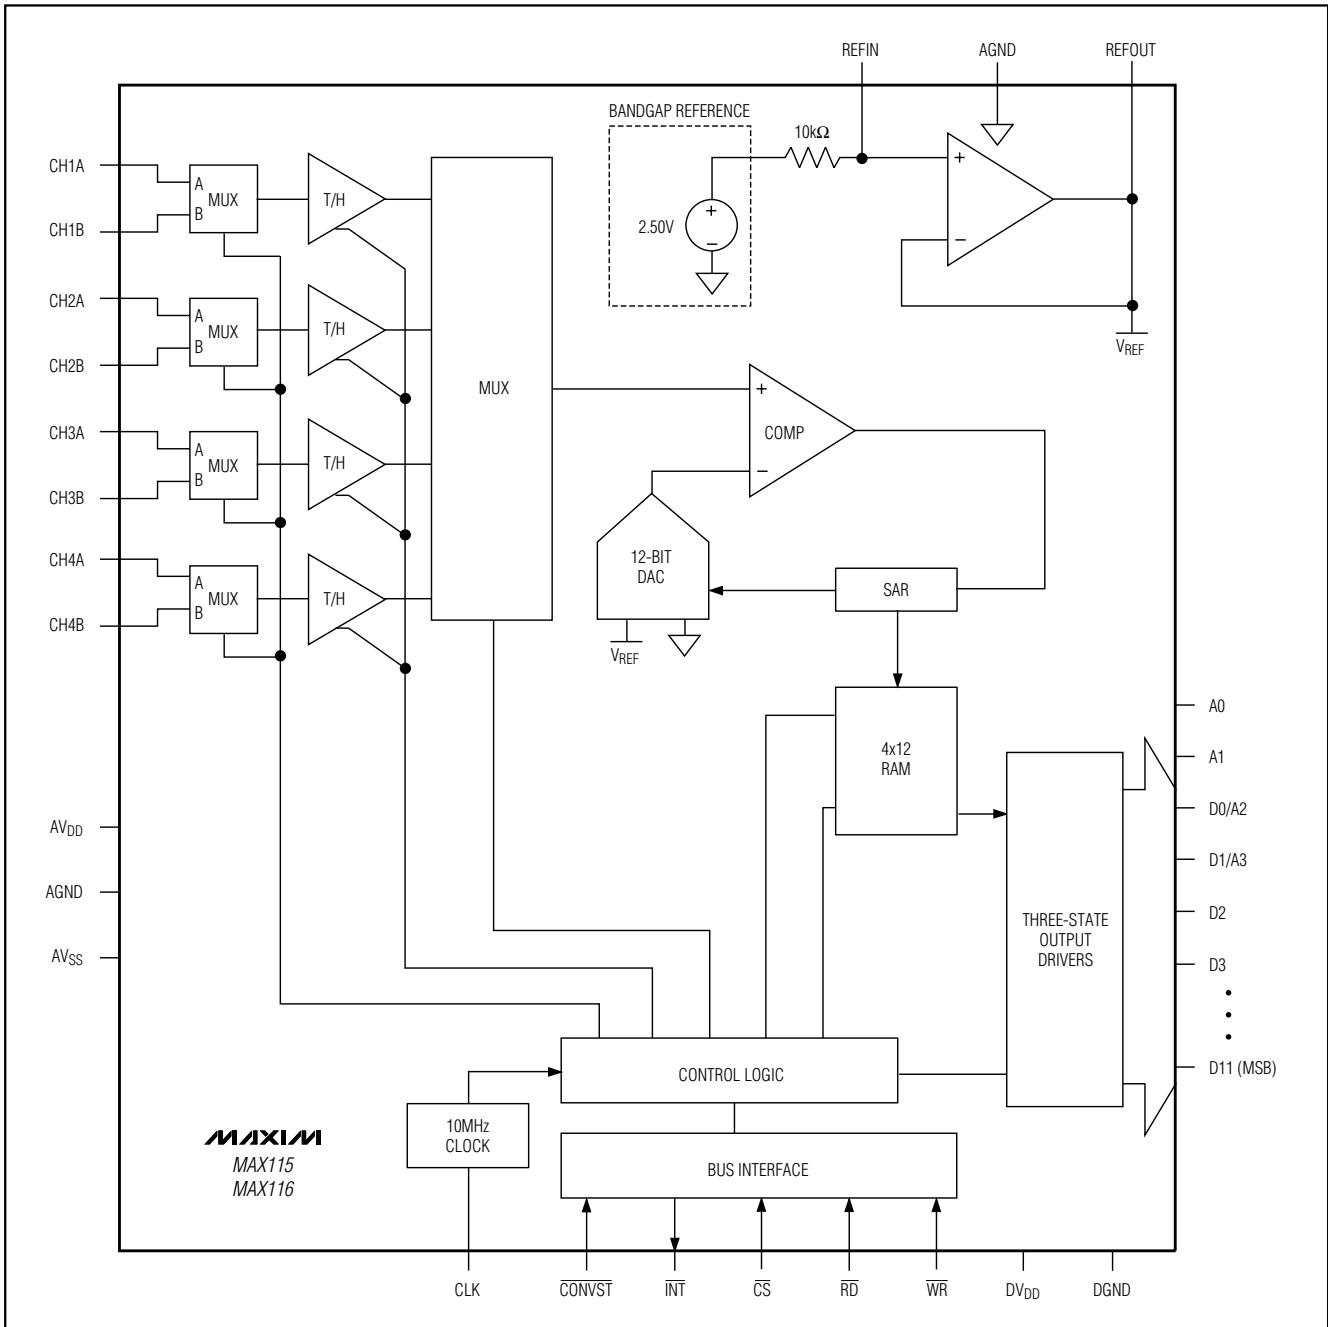

Figure 2. Functional Diagram
**Note 9:** See Figure 2.
The MAX115/MAX116 use a successive-approximation conversion technique and four simultaneous-sampling track/hold (T/H) amplifiers to convert analog signals into 12-bit digital outputs. Each T/H has two multiplexed inputs, allowing a total of eight inputs. Each T/H output is converted and stored in memory to be accessed sequentially by the parallel interface with successive read cycles. The MAX115/MAX116 internal micro-sequencer can be programmed to digitize one, two, three, or four inputs sampled simultaneously from either of the two banks of four inputs (Figure 2). The MAX115/MAX116 can operate with either an external or internal clock. For internal operation, connect CLK to DVDD.
The MAX115/MAX116 have eight conversion modes plus power-down, which are programmed through a bidirectional parallel interface. At power-up, the devices default to the Input Mux A/Single-Channel Conversion mode. The user can select between two banks (mux inputs A or mux inputs B) of four simultaneous-sampled input channels, as illustrated in Figure 2. An internal microsequencer can be programmed to convert one to four channels of the selected bank per sample. For a single-channel conversion, CH1 is digitized, and then **INT** goes low to indicate completion of the conversion.